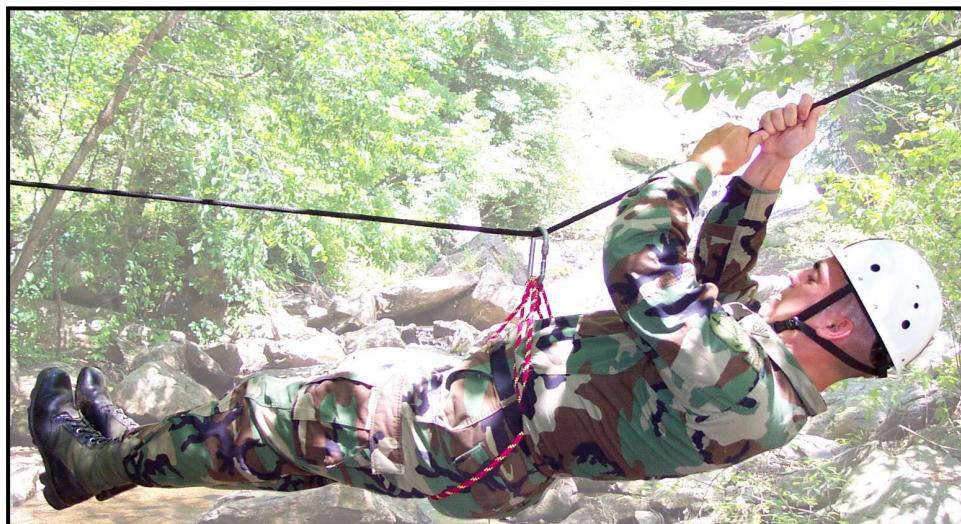

Figure 7-17. Rappel seat method.
(3) **Rappel Seat Method** (Figure 7-17). The soldier ties a rappel seat (or dons a seat harness) with the carabiner facing up and away from his body. He then faces the rope and clips into the rope bridge. He rotates under the rope and pulls with his hands and arms to make progress. The rappel seat method is the preferred method. If crossing with rucksacks, a carabiner is inserted into the frame and attached to the rope bridge. The soldier places one or both legs through the shoulder carrying straps and pulls the rucksack across.